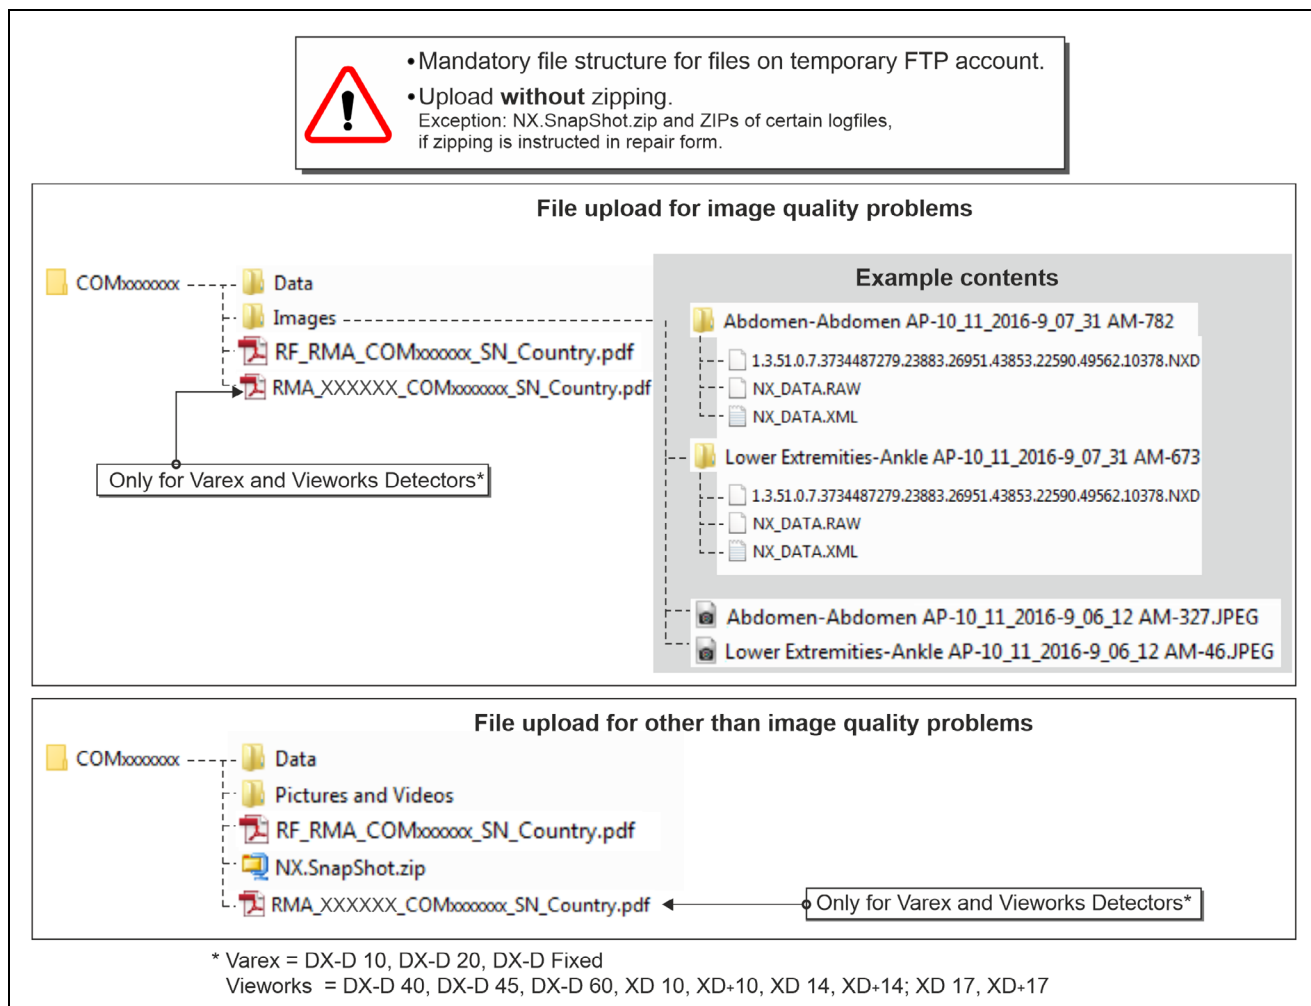

Figure 3: Mandatory file structure on the temporary FTP account
- (1) Enter the COM number in the Detector Repair Form.
- (2) Upload the filled-in Detector Repair Form to the complaint.
- (3) In case of DX-D 40/45/60 or XD Detectors or DX-D 10/20/fixed: Upload the filled-in RMA form to the complaint.
- (4) Recommended*: Add the collected data as one ZIP file to the complaint. Use 7-Zip (<http://www.7-zip.org>) for zipping.
- (5) Apply for a temporary FTP account at http://ftp.agfa.be/cgi-bin/ftp_admin. In case of no access to the Agfa intranet: Contact an Agfa representative to apply for a temporary FTP account.
- (6) Add the reference to the temporary FTP account in the ASSM problem description.
- (7) Upload the data **unzipped** to the temporary FTP account with the mandatory** file structure as shown in Figure 3. Do not add own created subdirectories: Some data require length of path + filename to be < 256 characters to allow automatic evaluation.